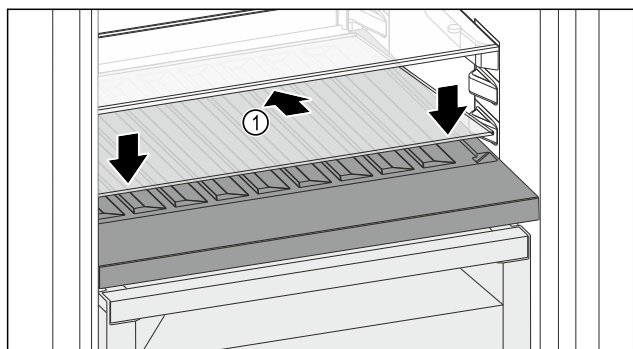

Fig. 104
- Place the glass shelf Fig. 104 (1) at an angle, sloping it downwards and backwards.
- Lower the glass shelf Fig. 104 (1) at the front.